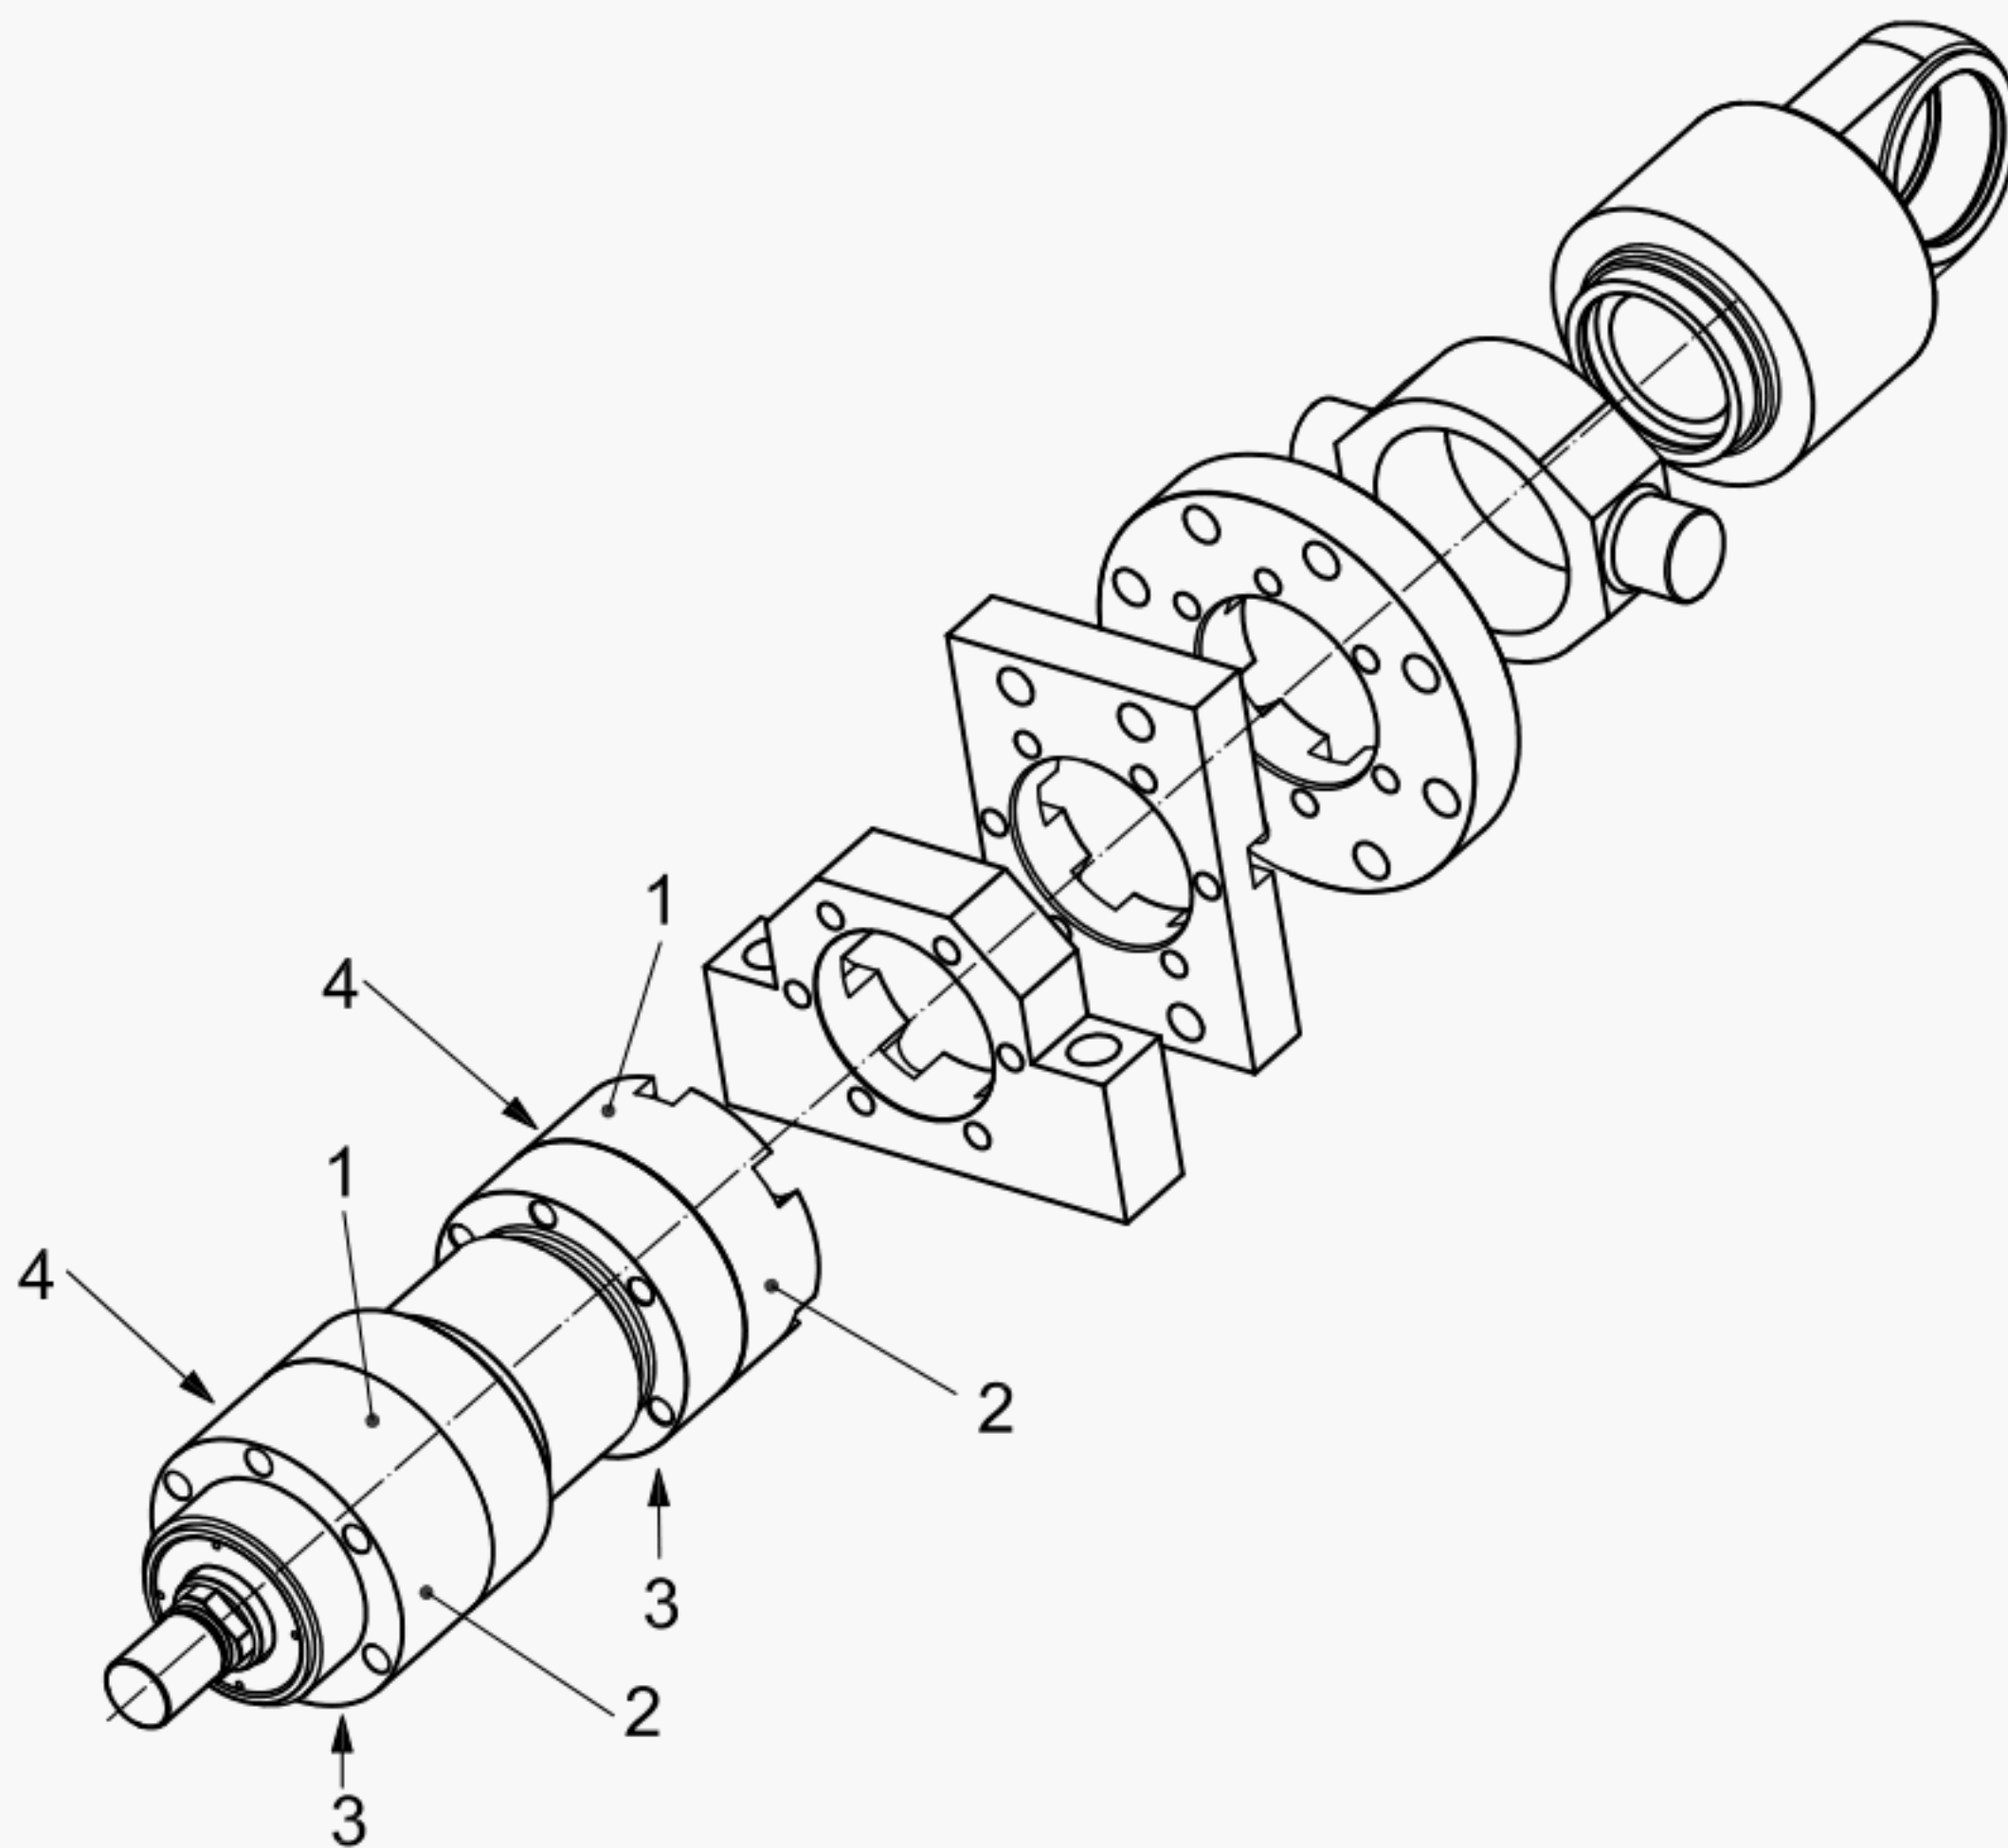

Figure 93 — Port position for round type cylinders
- For round type cylinders, port position 1 to port position 4 can be selected as shown in Figure 93 or as a sector between two positions.